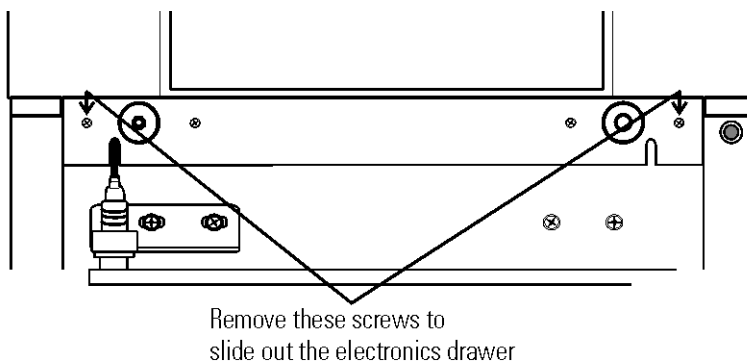

Figure 5-5. Screw Locations
4. Remove two screws as shown. See Figure 5-5.